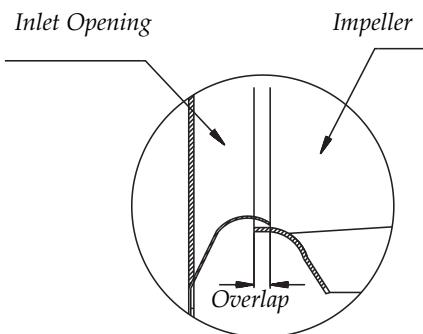

Figure 4. Sketch of overlap
- No/ or too much overlap between impeller and inlet cone, see figure 4 and table 6.